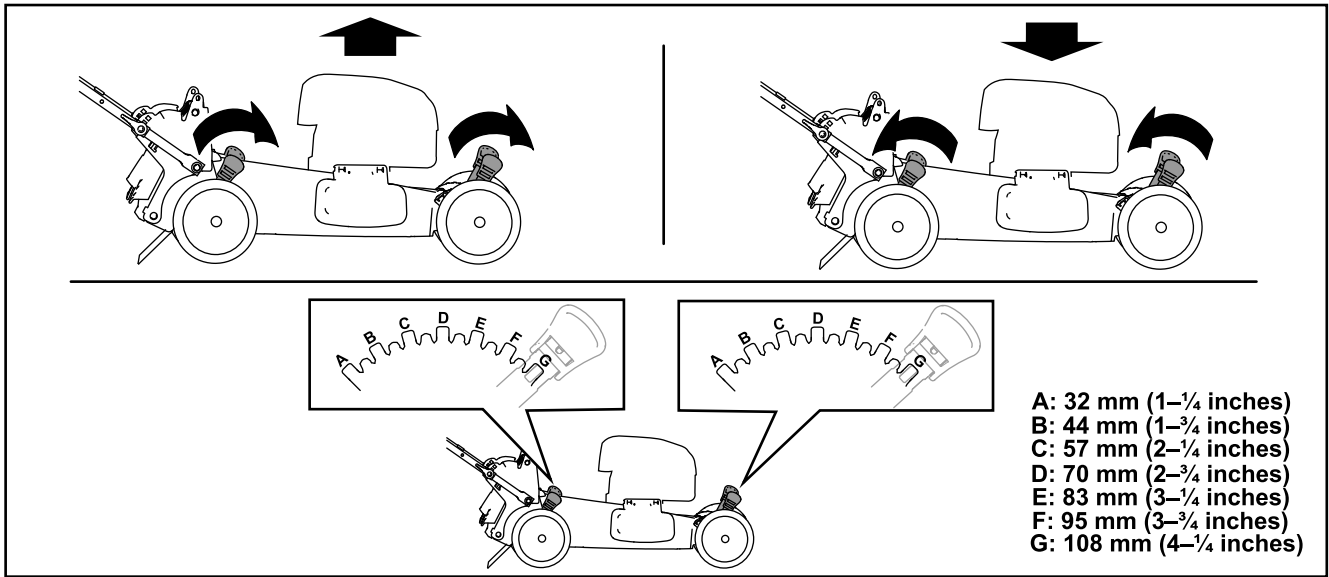

Figure 13
Adjust the cutting height as desired. Set all the cutting-height levers to the same height. To raise or lower the machine, refer to Figure 13.
**Note:** Do not pull the blade-control bar to the handle while pulling the recoil-start handle (A of Figure 13).